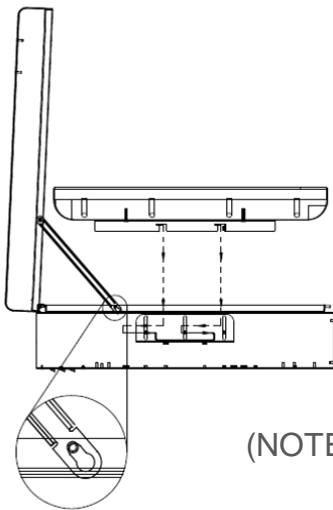

Figure5
**STEP 12:** Then safely place your display into the enclosure using the interior mounting plate (Figure5).